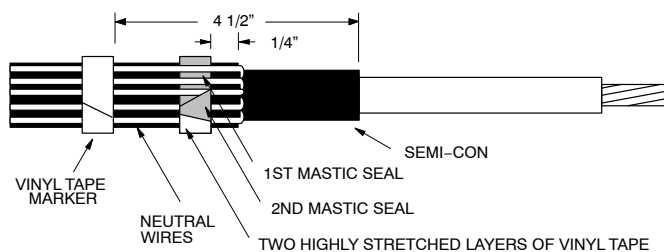

FIGURE 3
4. Bend neutral wires back over applied mastic. Secure the wires to the cable jacket with vinyl tape. The tape should be placed a distance of 4-1/2" from the edge of the semi-con. See Figure 3.
5. Select a second mastic strip from the kit and remove the white release liners. Apply a second mastic band over the neutral wires and the previously applied mastic. Cut off excess. See Figure 3.
6. Compress the neutral wires into the mastic. Over-wrap the mastic strips with two highly stretched layers of vinyl tape. Be sure that all exposed mastic is covered. See Figure 3.